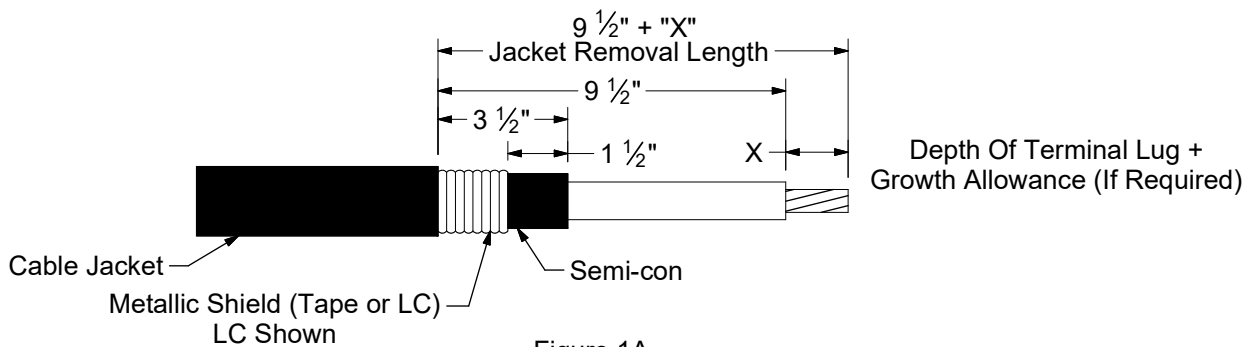

Figure 1A
- Train cable into position and cut to required length. Strip the cable to the dimensions shown in Figure 1A. Check the lug being used to determine insert depth "X".